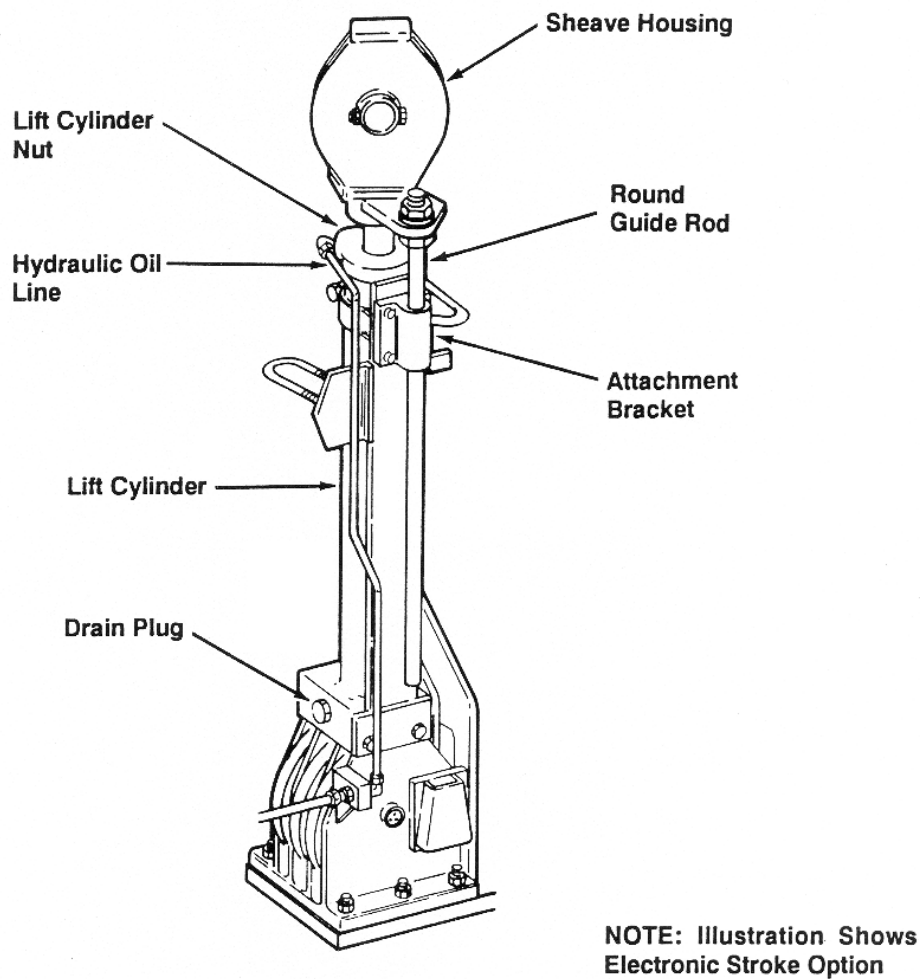

Figure 10-19
Refer to the following instructions and Figures 10-19,10-20, & 10-21 when disassembling the Lift Cylinder.
5. Remove the hardware that secures the Guide Rod (3001290) to the Sheave Housing. Refer to Figures 10-19 & 10-20.
6. Remove the hardware that secures the Sheave Housing to the Lift Cylinder Rod. Separate the Sheave Housing from the Lift Cylinder Rod and the Guide Rod. Refer to Figures 10-19 & 10-20.
7. Remove the Lift Cylinder Drain Plug. Drain and discard any remaining oil from the Lift Cylinder (See Figure 10-19).
8. Loosen the connections on the Hydraulic Oil Line on both ends, and separate the Oil Line from the elbow fittings on the Lift Cylinder. (See Figure 10-19).
9. Loosen the upper (clamping) end of the Attachment Bracket. Slide the bracket down, out of the way or remove it. Refer to Figures 10-19 & 10-21.
10. Unscrew the Lift Cylinder Nut and remove it with the Lift Cylinder Rod & Piston. Refer to Figures 10-19 & 10-21.
7. Replace the Cylinder Drain Plug (See Figure 10-19).
9. Reposition the Attachment Bracket, and retighten the hardware at both ends (See Figure 10-19 & 10-21).